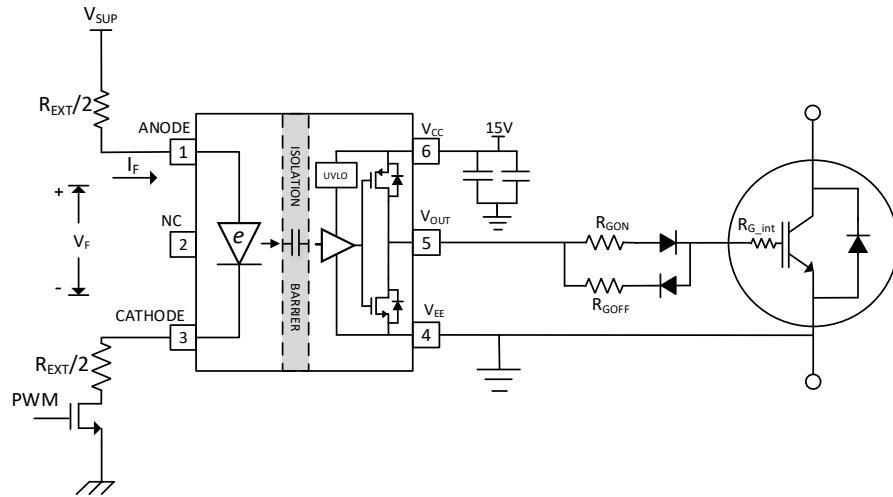
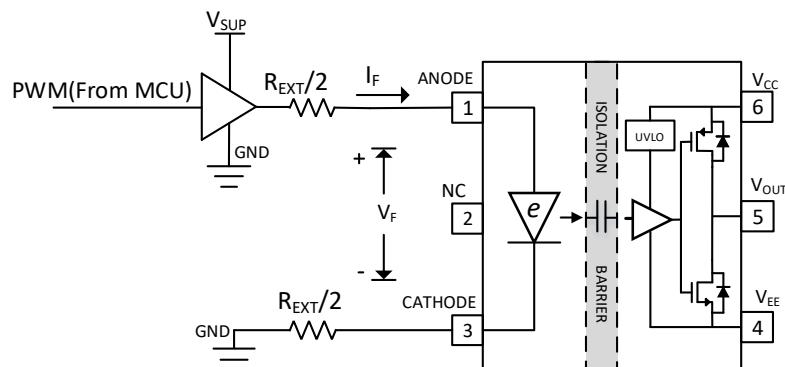
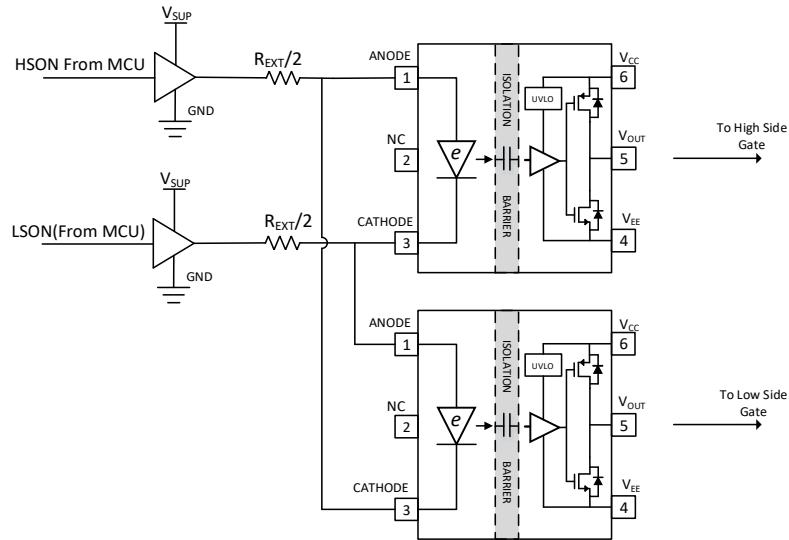

Figure 9.1 NSI6801 typical application circuit with NMOS driving input stage
Figure 9.2 NSI6801 typical application circuit with one buffer driving input stage
Figure 9.3 Interlock Protection using NSI6801
NSI6801 requires 7mA to 16mA bias current that flows into the e-diode for normal operation. The PWM from MCU is not suitable to provide such current directly and external circuit is needed. In Figure 9.1, one NMOS is used with split input resistors. Another input drive method is using one buffer, as shown in Figure 9.2. The details to calculate input drive parameters are in Chapter 9.3.
For applications to drive power transistors in half bridge configuration, two NSI6801 can be used. Interlock protection is possible as shown in Figure 9.3. If the controller has some mistake, leading to negative dead time, the output PWM of NSI6801 is adjusted to avoid power transistor shoot through. The input side reverse breakdown voltage of NSI6801 is greater than 6.5V, which supports interlock protection of 3.3V or 5V PWM signal source.
The recommended forward current range for NSI6801 is 7mA to 16mA. The value of input resistor, buffer supply voltage and buffer internal resistance influence the forward current, as shown in Equation (1). In Figure 9.1, R_{IN1} is the on-resistance of the external NMOS. In Figure 9.2, R_{IN2} is the buffer output impedance in output "High" state. In Figure 9.3, R_{IN3} is the summary of buffer output impedance in "High" and "Low" state.